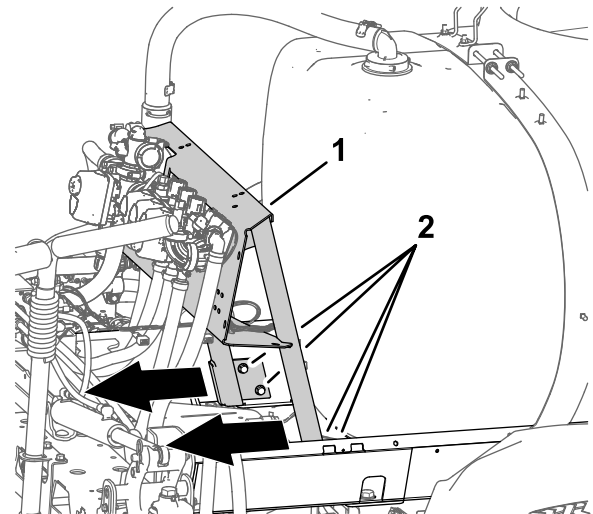

Figure 11
2. Move the valve mount rearward (Figure 11).